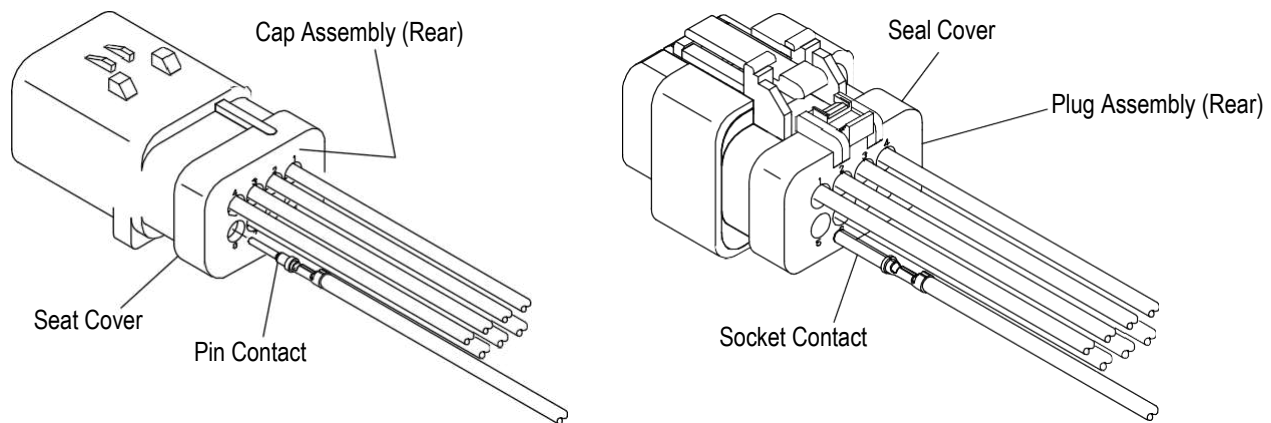
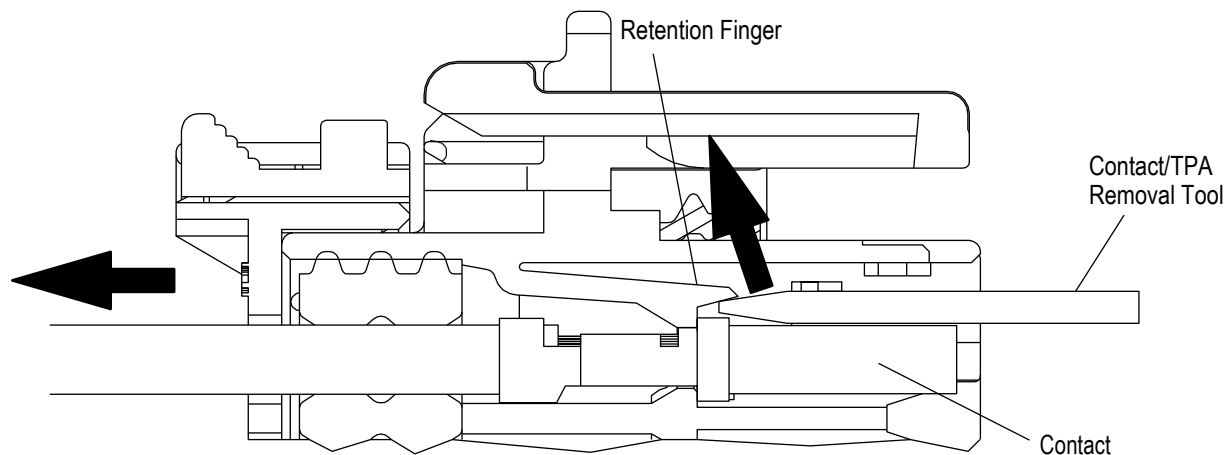

Figure 3
Figure 11
2. Align the appropriate contact with the desired circuit cavity at rear of the housing assembly. Push the contact straight into the cavity, forcing it through the wire seal. See Figure 3. Continue to push the contact straight into the cavity with the wire until the contact retention finger returns to its normal position behind the retention shoulder on the contact as indicated by an audible and tactile “click”. Refer also to Figure 11.
4. Insert the tip of the contact extraction tool into the contact cavity and deflect the contact retention finger. Gently pull the wire until the contact is free from the housing. Repeat this procedure for the remaining number of contacts to be removed as shown in Figure 11.